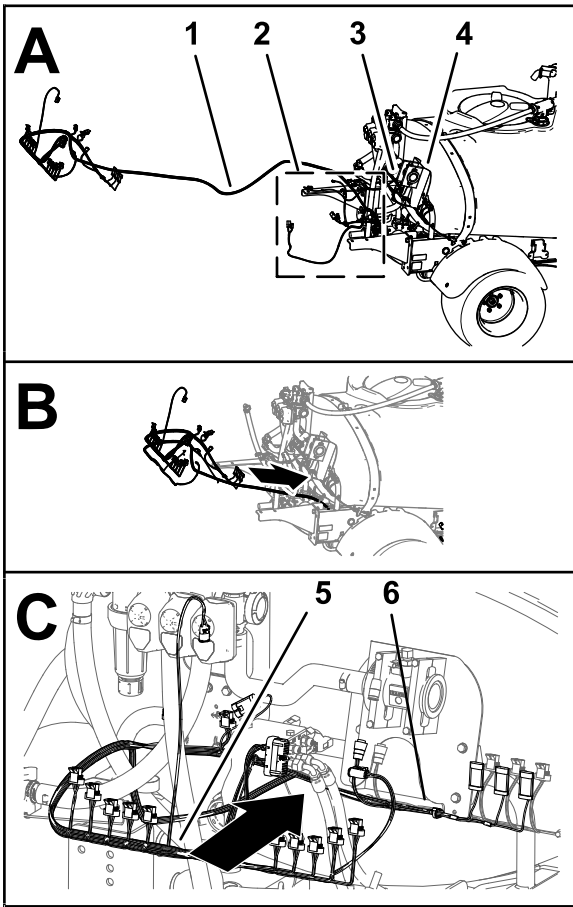
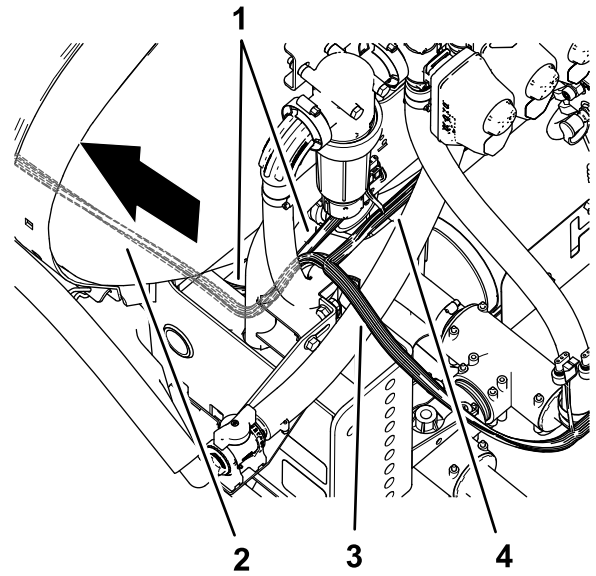

Figure 79
Figure 80
2. Route the 84 cm (33 inch), 60 cm (23-1/2 inch), and 66 cm (26 inch) wire-harness branches of the kit sprayer harness to the left side of the machine along the machine wire harness (Figure 79 and Figure 80).